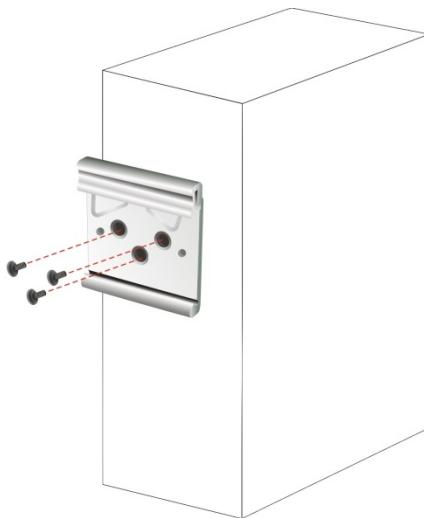

Figure 3-14: DIN Rail Mounting Bracket Installation
Step 1: Attach the supplied DIN rail mounting bracket to the rear panel of the embedded system. Secure the bracket to the embedded system with three retention screws (**Figure 3-14**).